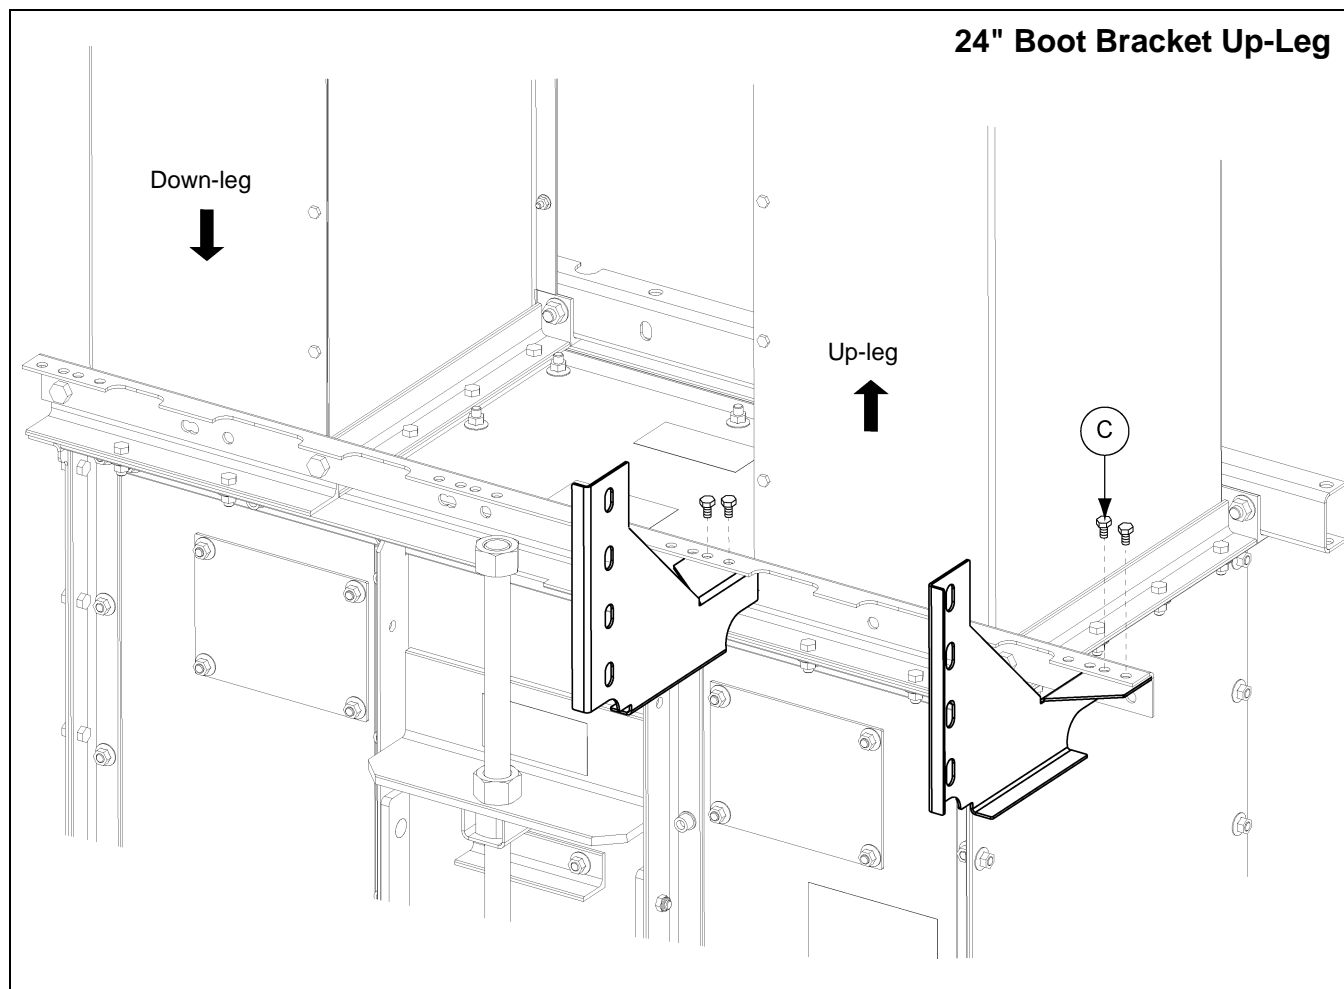

Figure 6F 24" Boot Bracket Up-Leg
- d. **24" Up-leg boot bracket:** Use 3/8" x 1" hex bolts to attach the ladder support brackets to the boot tie angle using the holes indicated in Figure 6F. Note the outer bracket uses the two (2) outer most set of holes on the tie angle.